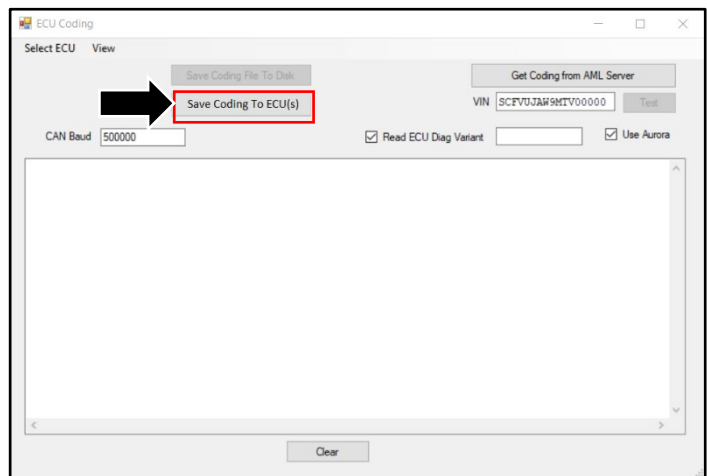

Figure 21
33. Select “Save Coding To ECU(s)” (refer to Figure 21).